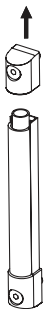

Fig.3
- Insert the sensor holder bracket (Fig.3).